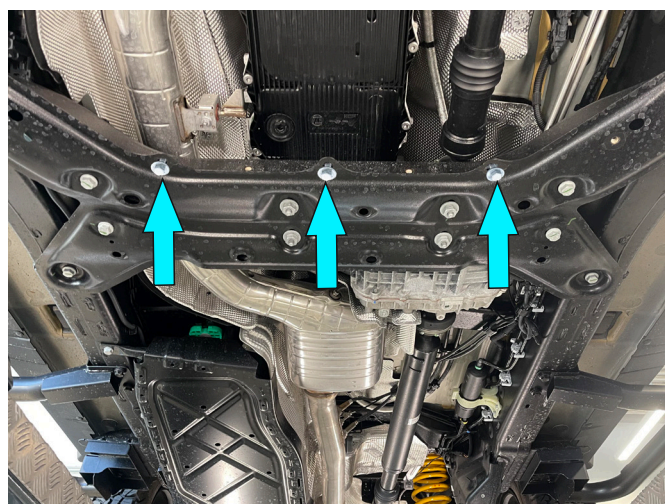

Fig. 8
6. Slightly screw bolts M10x30 with washers M10 (items B, E) into insert nuts M10 from step 5 (fig. 8).